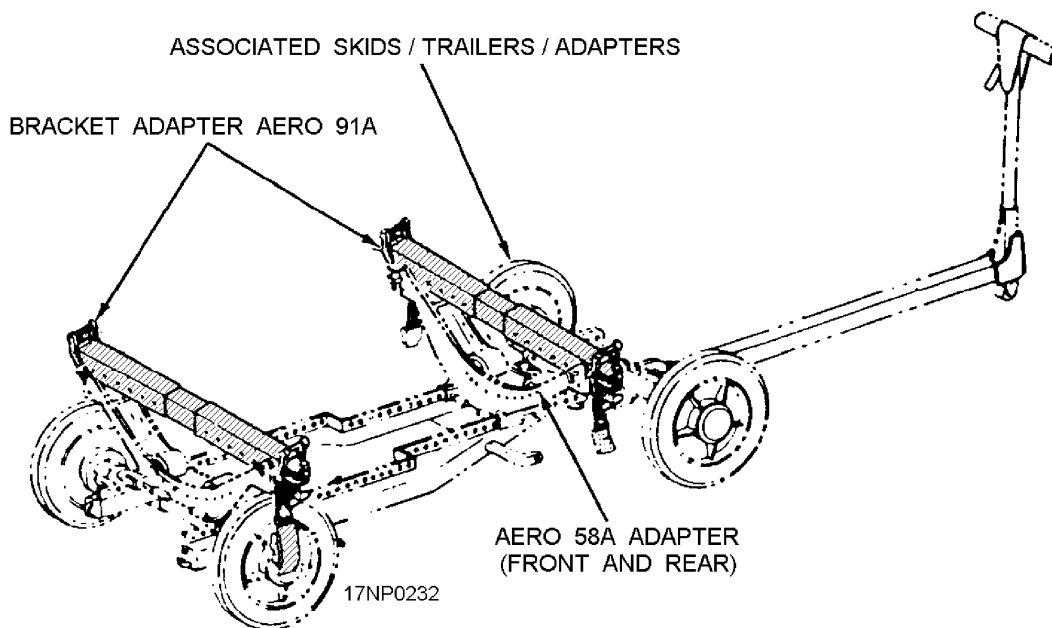

Figure 9-34.—Aero 91A bracket adapter mounted to Aero 58A skid adapters/MHU-191/M munitions transporter.
**AERO 91A BRACKET ADAPTER.**—The Aero 91A bracket adapter (fig. 9-34) consists of an arm weldment, two sleeve weldments, connecting pins, hooks, T bolts, and clamp weldments. You can adjust